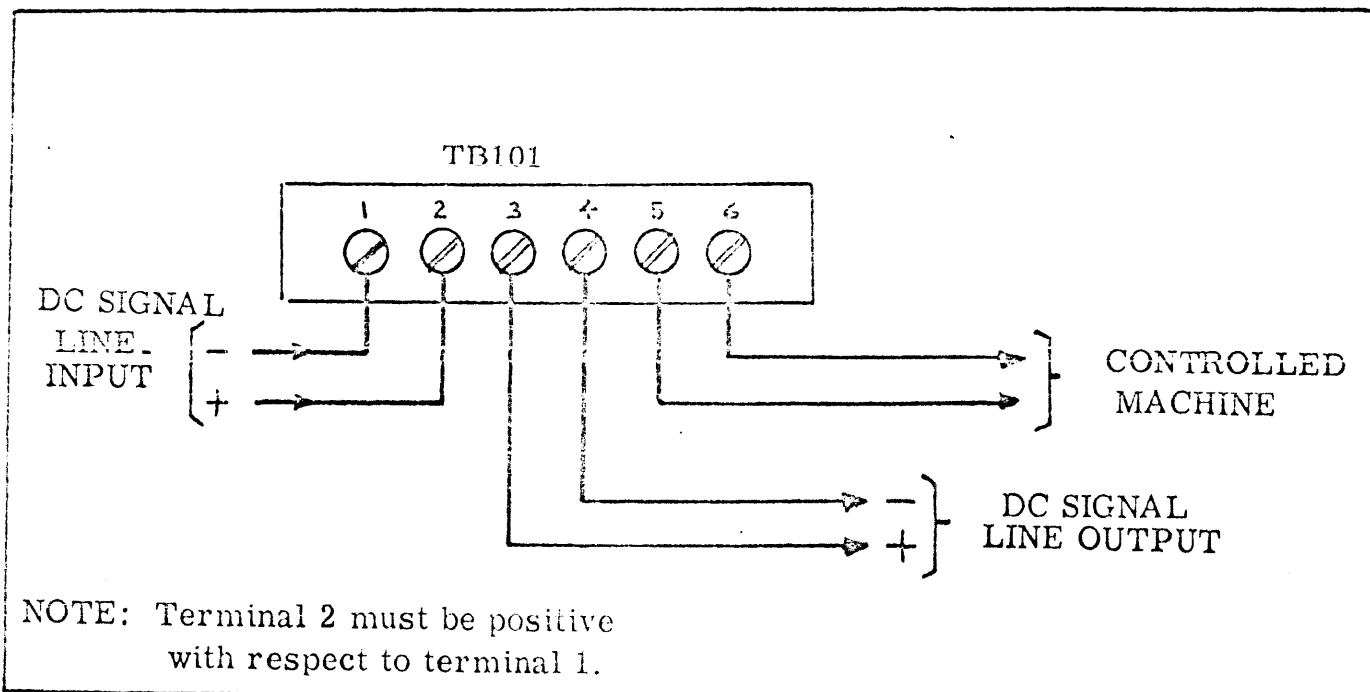

Figure 2-1. Interconnection Diagram
- b. Connect signal and control cables to TB101 (figure 2-1).
See Figure 2-1 for detailed interconnection diagram.